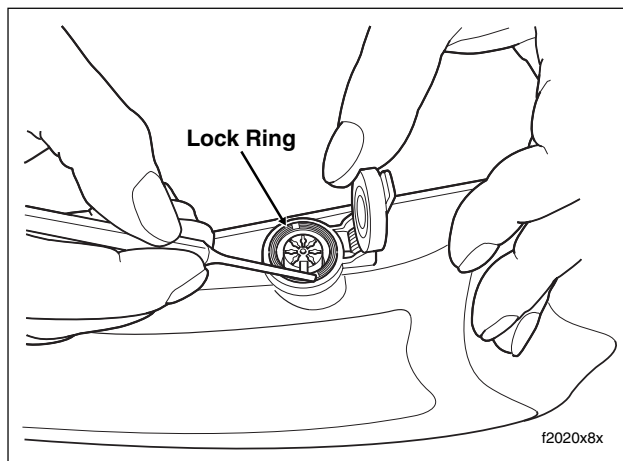

Figure 8-141. Remove Lock Ring from Receptacle Using Pin Punch
3. Raise headset receptacle cap. Place pin punch in either notch of lock ring and rotate in a counterclockwise direction until loose. See Figure 8-141.